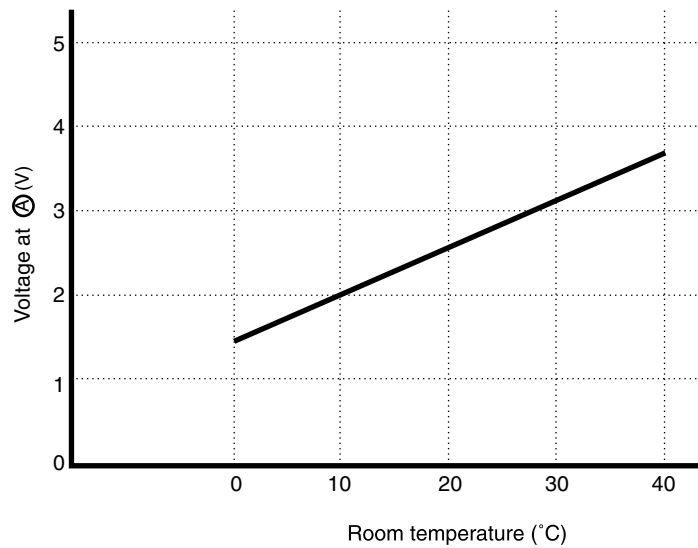

Fig. 6-2
- The voltage at (A) depends on the room temperature as shown in Fig. 6-2.